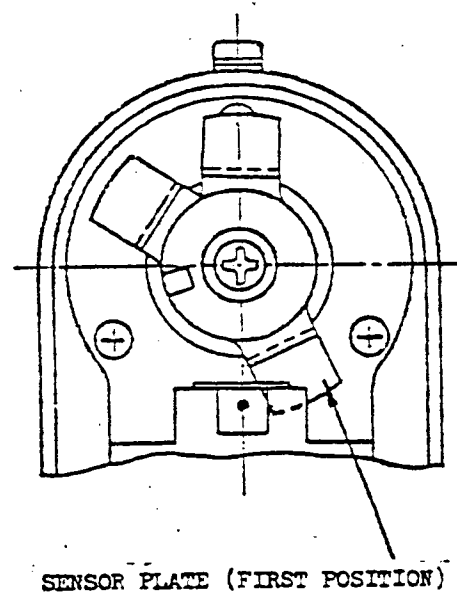

Fig. 6
3. The trimmer solenoid is energized when the sensor plate (for lower needle position) reaches a point shown in Fig. 6